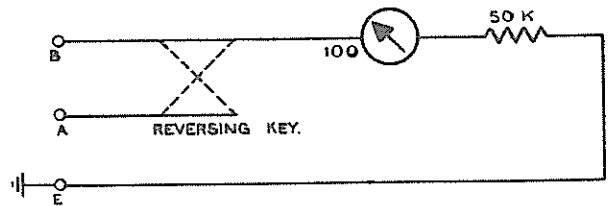

FIG. 4
7. Switch in Posn. 3 (Test for battery B, and battery A).—In this position of the switch, a 50,000-ohm resistor is connected in series with the meter between terminals B and E and the meter then acts as a voltmeter with a full-scale deflexion of 50 volts D.C. The circuit for this test is shown in Fig. 4. Operation of the line-reversing toggle switch enables tests for battery on the A line to be made.